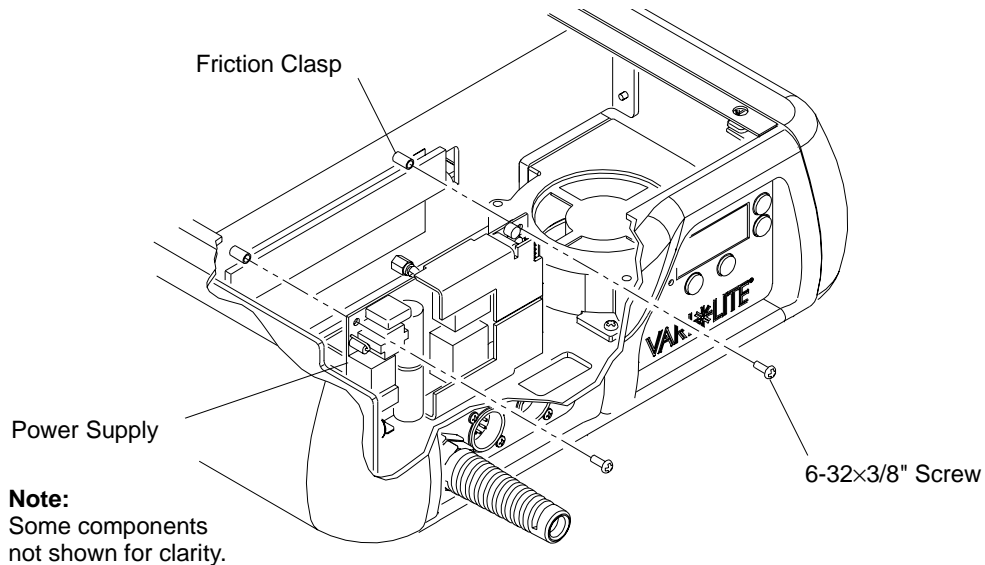

Figure 2-24: Power Supply Replacement
- Step 4. At power supply, remove two 6-32×3/8" screws from top of board. **Figure 2-24.**